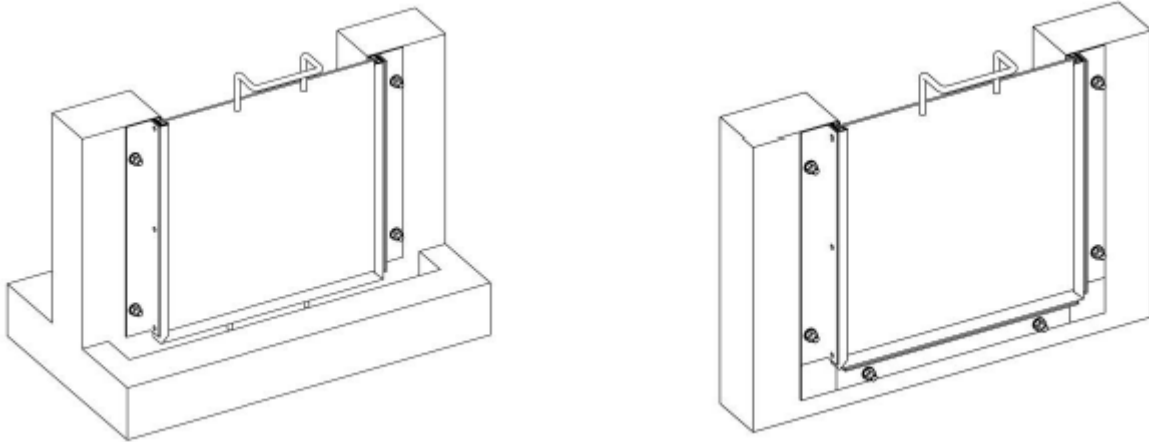

Fig. 3
- Position Hand Stop, Stop Log, Stop Gate in the respective recess and align with plumb and level, acc. Fig. 3. For Water Control Gates without bottom profiles, position the respective frame sections.